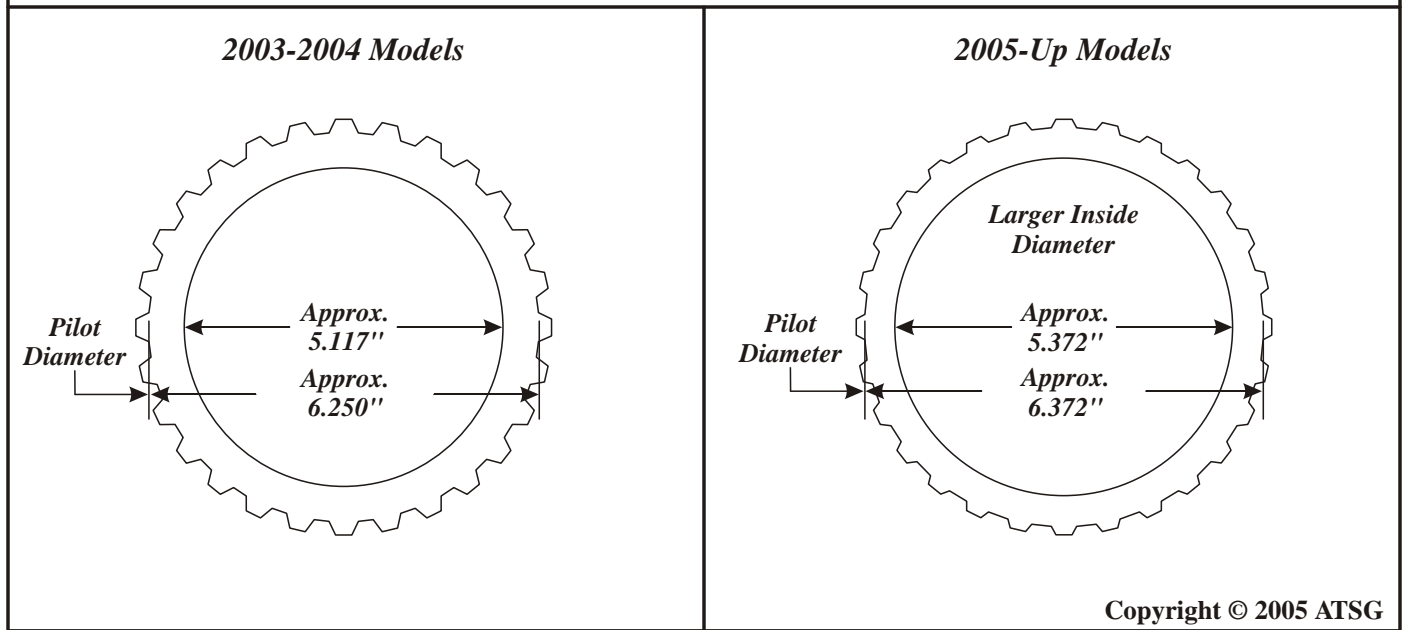

Figure 2
- (6) FORWARD CLUTCH STEEL PLATES - The inside diameter and the pilot diameter increased to accommodate the increased diameter of the planetary carrier, as shown in Figure 2. The outside tooth count did not change.